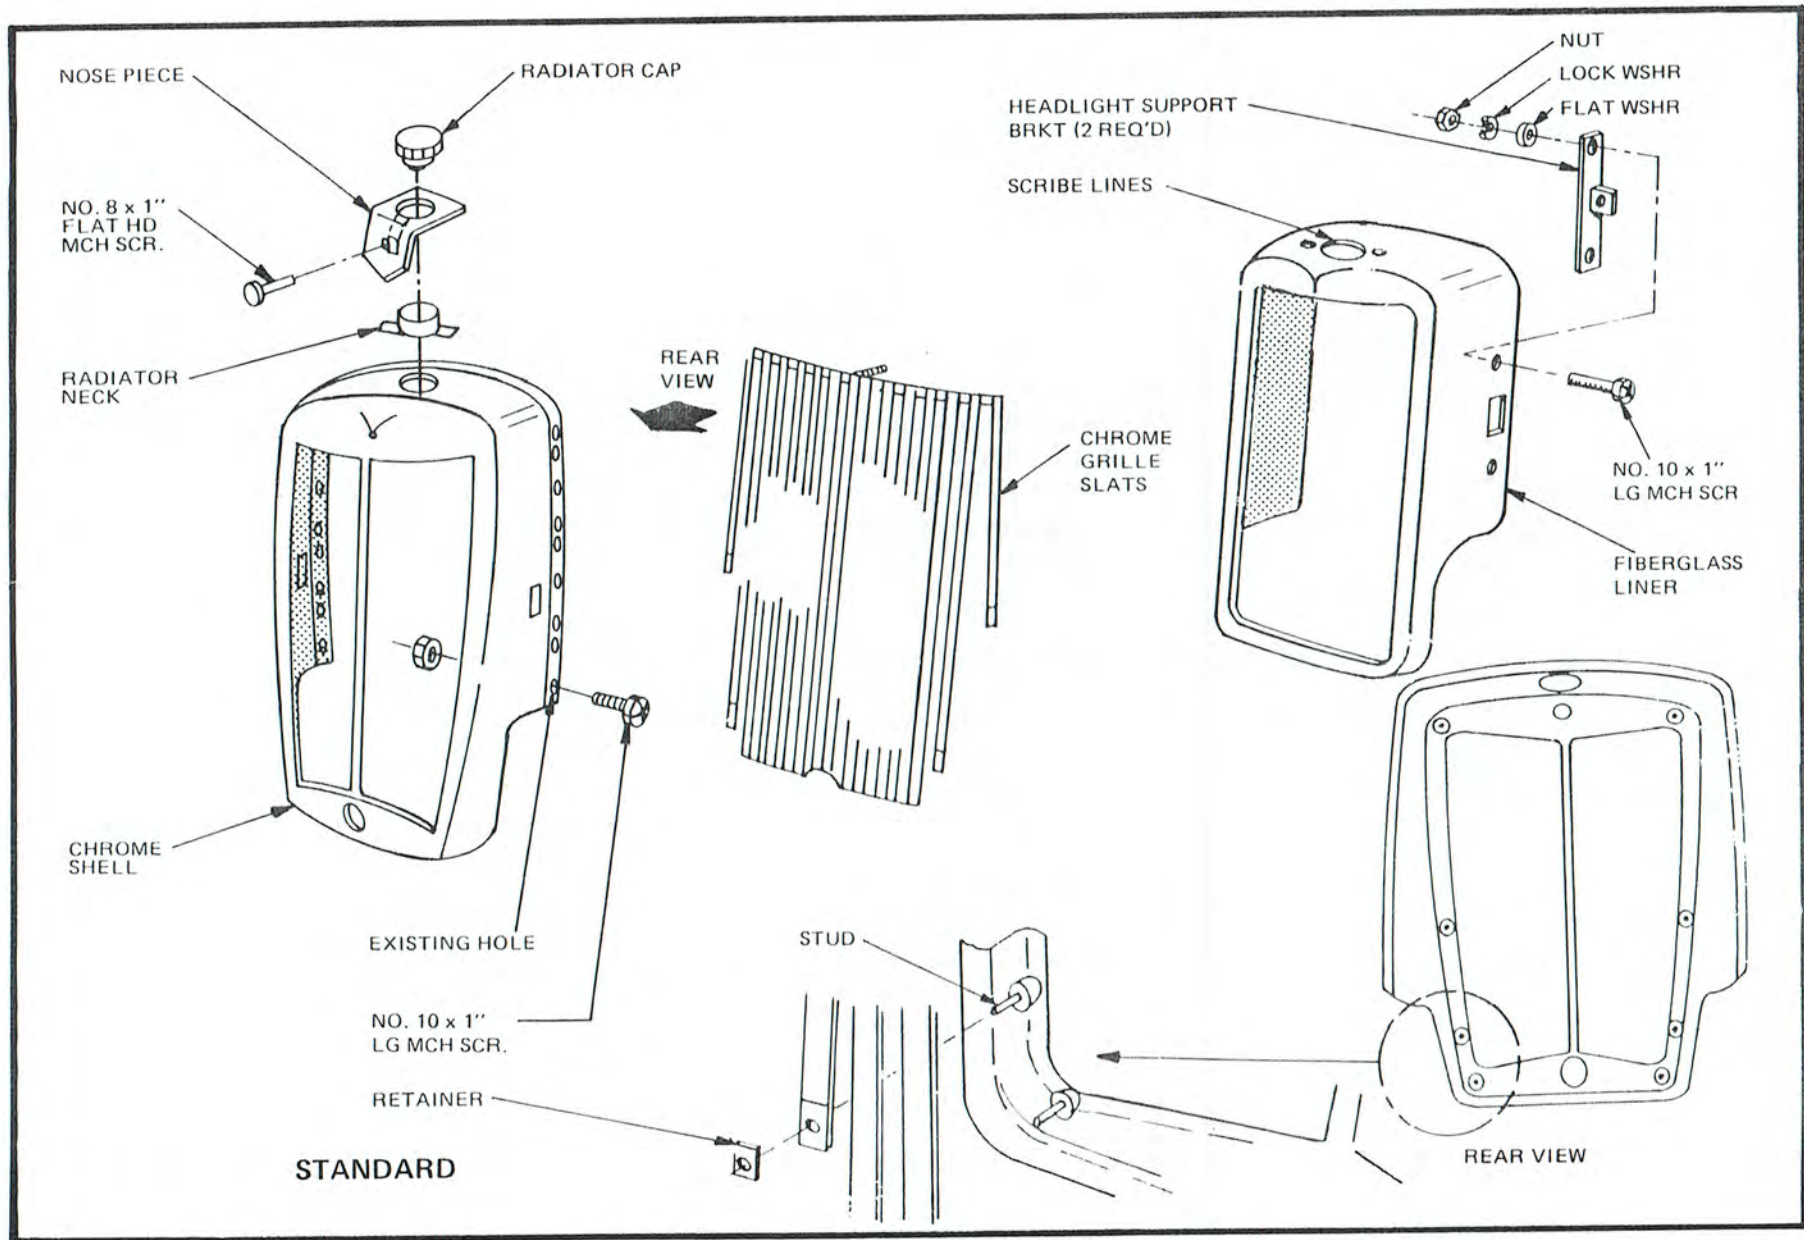

Figure 41
GRILLE PREPARATION (Refer to Figure 41)
- Insert liner into assembled chrome shell. (Refer to Figure 41). Working through the rectangular holes on each side of the chrome shell, scribe the outline into the fiberglass liner. Remove liner and cut out the rectangular holes in the fiberglass liner. Position one of the headlight support brackets into the rectangular slot of the fiberglass liner. When installed the tab should be angled straight out from the center line of the car, not from the shell. Mark the location of the screw holes. Drill 3/16" hole at the marked location. Insert 2 No. 10 x 1" screws into the liner from the outside. Slide the headlight support over the screws and bolt, using nuts, flat